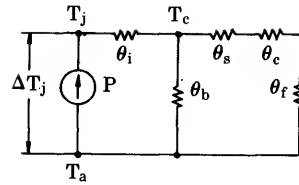

Fig. 2 Radiation Equivalent Circuit
For the path conducting the heat generated in the transistor junction to the outside, thermal movement is supposed to be equal to current, and an electric circuit is substituted for convenience's sake. Consequently, it is expressed by thermal resistance and thermal capacitance. In thermally stationary state, it can be shown by the radiation equivalent circuit in Fig. 2.
The total thermal resistance θ_{ja} to the open air, viewed from the junction, is given by expression (15) from the radiation equivalent circuit illustrated in Fig. 2.